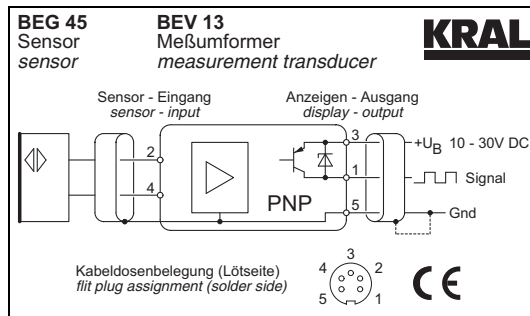

Fig. 12 Terminal diagram BEG 45 + BEV 13
6. Connect the amplifier. Observe the terminal diagram, see Fig. 12, page 32.